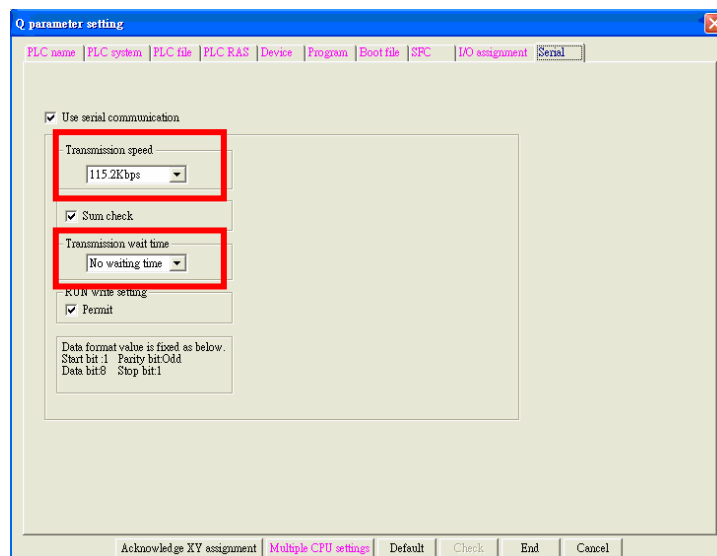

Fig. 2-1-15 Setting Parameters
- Setting of the PLC software serial parameters: configure to use serial communication, select the transmission speed, and set RUN to write mode, as shown in Figure 2-1-15.